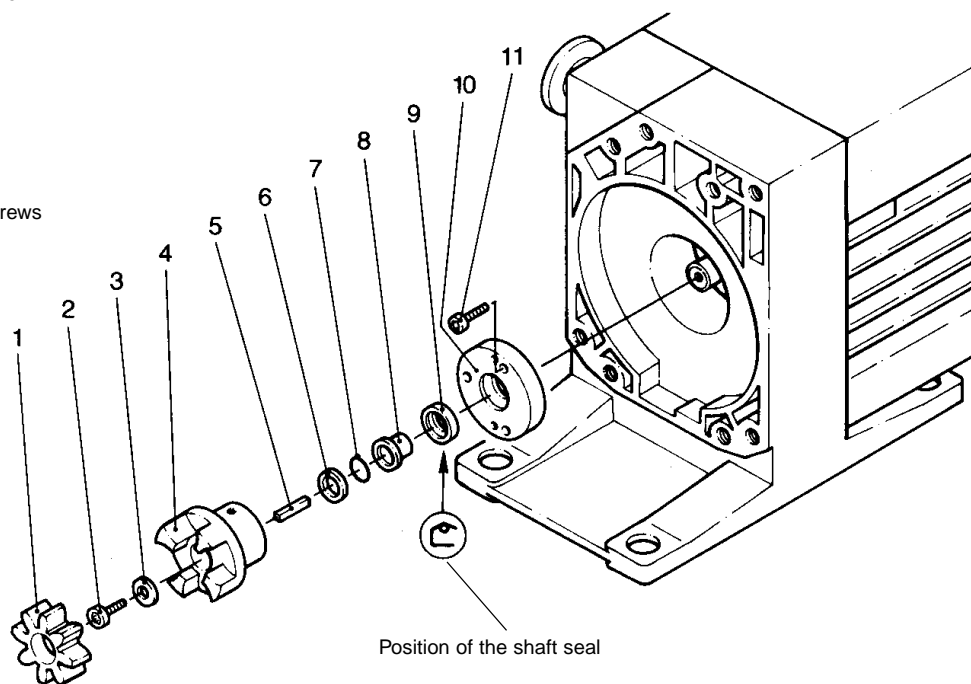

Fig. 12 Exchanging the outer shaft seal
**Key to Fig. 12**
Using a suitable plastic or aluminium cylinder (shaft seal driver) and a plastic hammer, force the shaft seal (12/9) carefully and without bending it into the centering disk (for position of shaft seal, see Fig. 12).